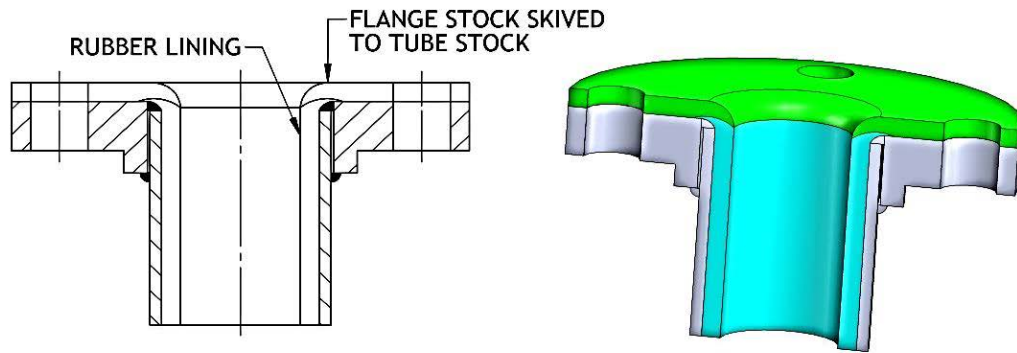
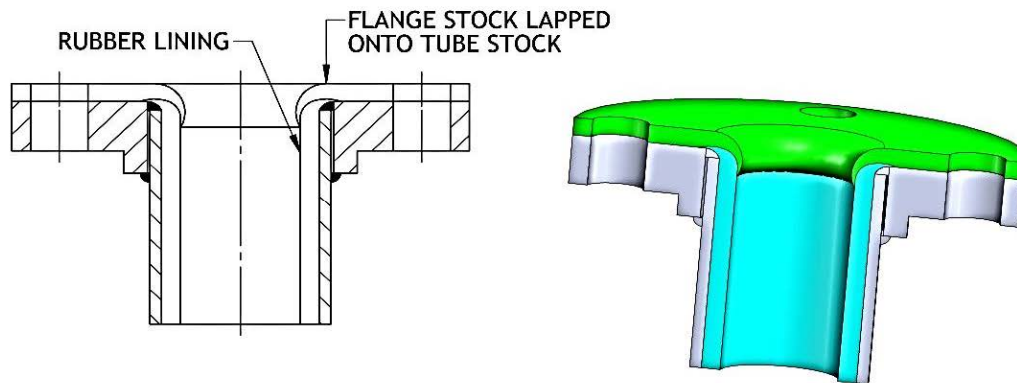

Fig. 8-3-1 Flange covering method
Fig. 8-3-2 Flange covering method
- 4.6 On pipe sizes larger than 6", the flange stock may be lapped onto the pipe lining with a closed skive instead of the skive used on smaller size. This lapping technique makes a stronger joint and is the preferred method. Some customers may prefer not to have laps at flanges because of abrasion considerations or requirements on full line capacity. See Fig. 8-3-1 and Fig. 8-3-2.